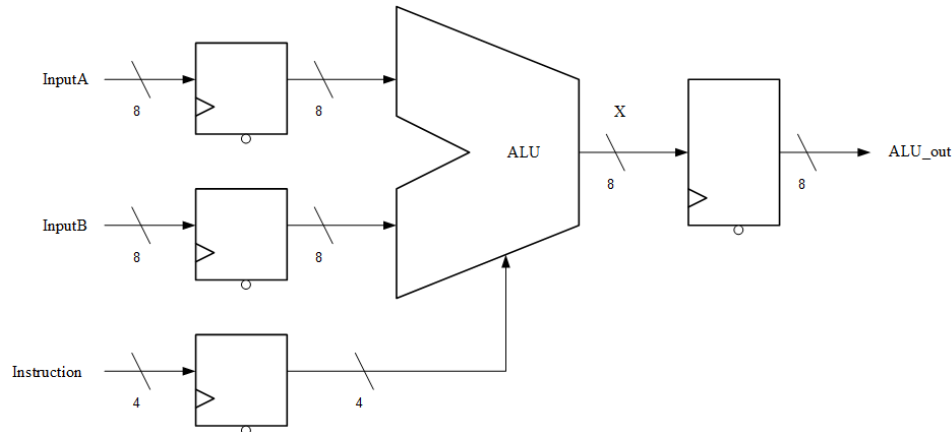

Figure 1. ALU architecture.
Figure 1 is a simple ALU with two 8-bit input signals and six instructions. You can input signals and select the functions with instruction. The functions and their corresponding instructions is defined in Table 1.
2. Construct the ALU described in Figure 1. Start from the module template *lab2_alu.v*, which defines the I/O of the module.